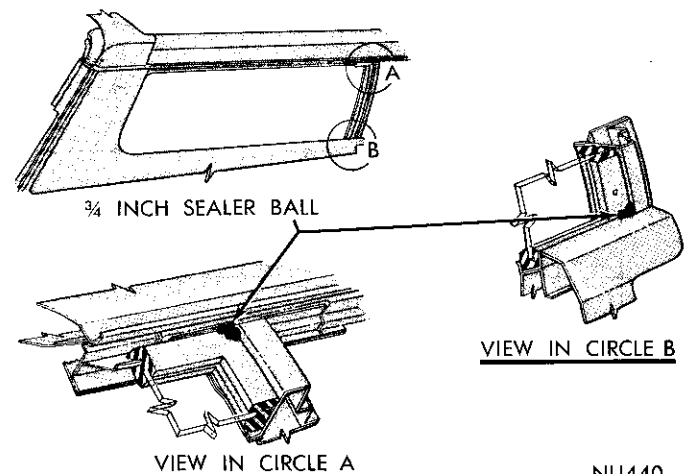

Fig. 83—Sealing Weatherstrip
(6) Seat glass in weatherstrip using hand pressure.
(7) Apply rubber lubricant to weatherstrip locking tab and insert locking tab into weatherstrip groove using a fiber stick.
(8) Apply and press secure, sealer to joint of weatherstrip, body lock upper pillar and roof side rail outer front area (Fig. 83).
(9) Apply and press secure, sealer to joint of glass